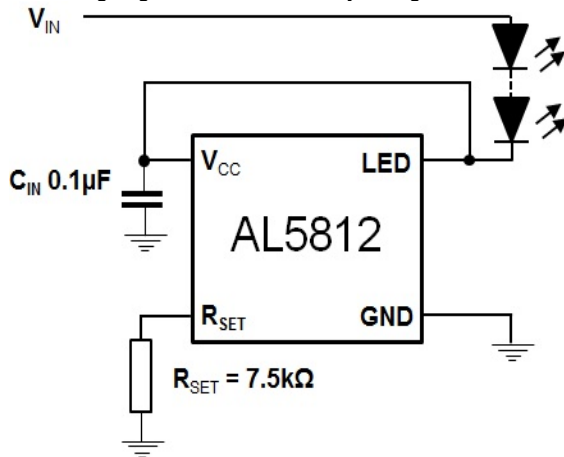
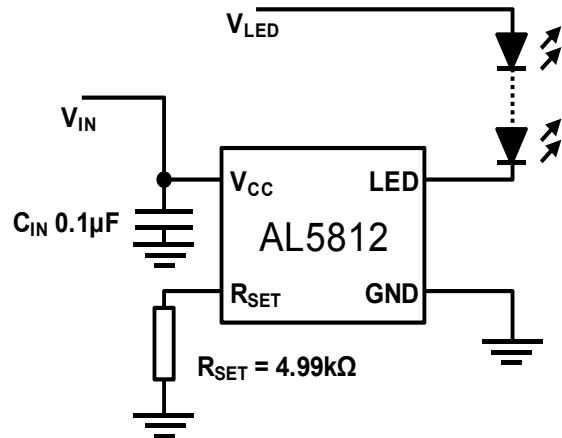
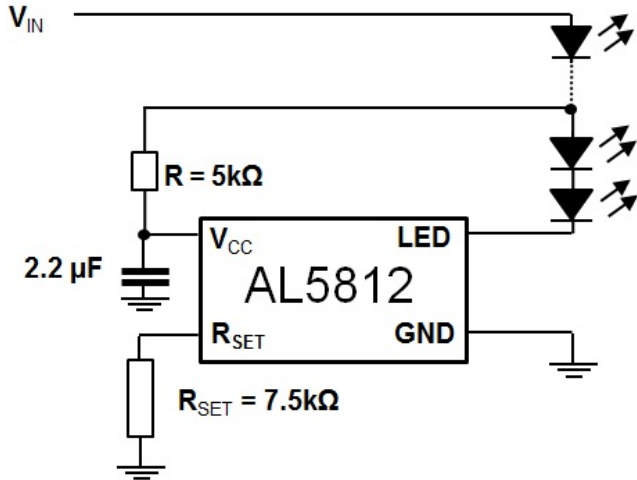
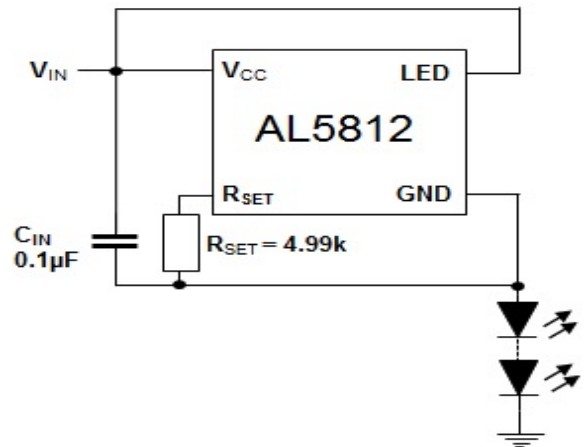

Figure 13 Low Side Current LED Setting
Figure 14 Low Side Drive – Separate Supplies
Figure 15 Low Side LED String Tapping
Figure 16 High Side Current LED String
- 13. The AL5812 has its V_{CC} pin connected to its LED pin, which are connected to the positive input supply voltage. R_{SET} is connected to AL5812 GND pin, which is connected to the anode of the LED chain. This creates a high side driver of the LED chain. See Figure 15.
The AL5812 is a Linear LED driver and in normal operation has the LEDs connected to the same potential as its V_{CC} pin and regulates the LED current by sinking current into its LED pin see Figure 13.
The AL5812 with its 60V capability on its supply pin, V_{CC} , and its LED drive pin allows it to operate from supply rails up to 60V and/or directly drive LED chains up to 60V as shown in Figures 13 and 14. The voltage applied to the V_{CC} pin can be greater or lower than the voltage applied to the LED string. Figure 14 shows where you might control it from a 5-V rail but power the rails from a 12V rail.
An extension of Figure 14 is to derive the power for the AL5812 from the LED chain itself see Figure 15. LED chains greater than 60V can be driven in this manner as long as PWM dimming is not utilized.
Figure 15 shows the use of RC delay to match the power time delay between Vcc and LED pin. The AL5812 can also be used on the high side of the LEDs, see Figure 16. This is a simple way of extending the maximum LED chain voltage, however, it does increase the minimum system input voltage to: